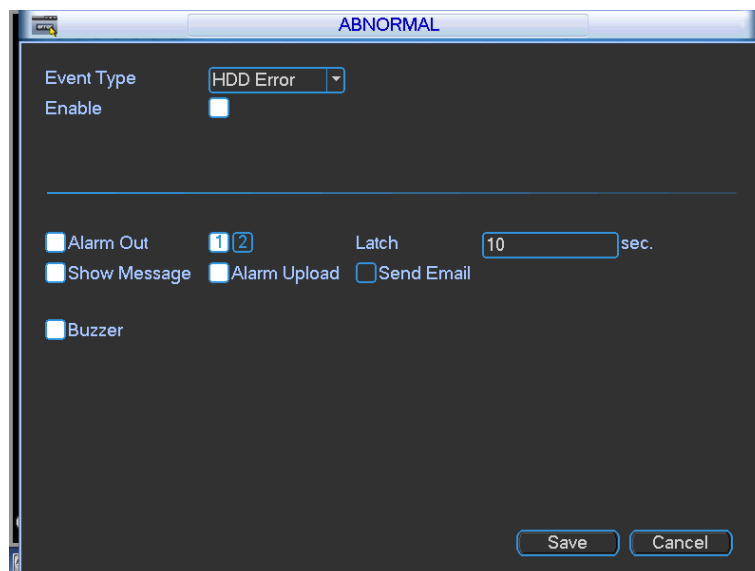

Figure 4-77
- Alarm set: Click alarm set button, the interface is shown as below. See Figure 4-77. (This interface is just like the abnormality setup). Please refer to chapter 4.8.5 for detailed information.